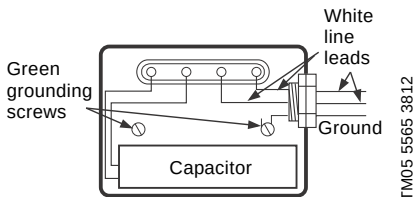

Fig. 3 Wiring diagram for all 115 V and 230 V single-speed pumps.
*For fig. 3, some pump models may come with two access wiring ports (cable entries) to the terminal box. To ensure safe operation of your installation, the enclosed terminal box cap (blanking) plug **MUST** be inserted into the unused wiring access port (cable entry).*